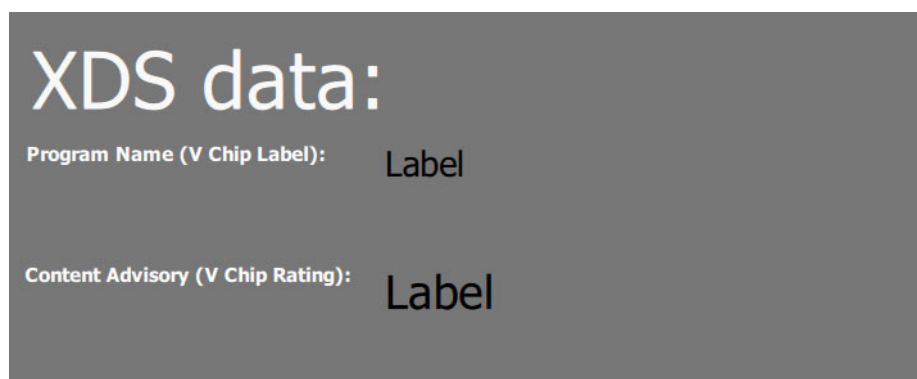

Fig. 6-4: Comment Labels Added to the Tile
- 11 Further comments may be added onto the tile using labels, as shown in Figure 6-4.